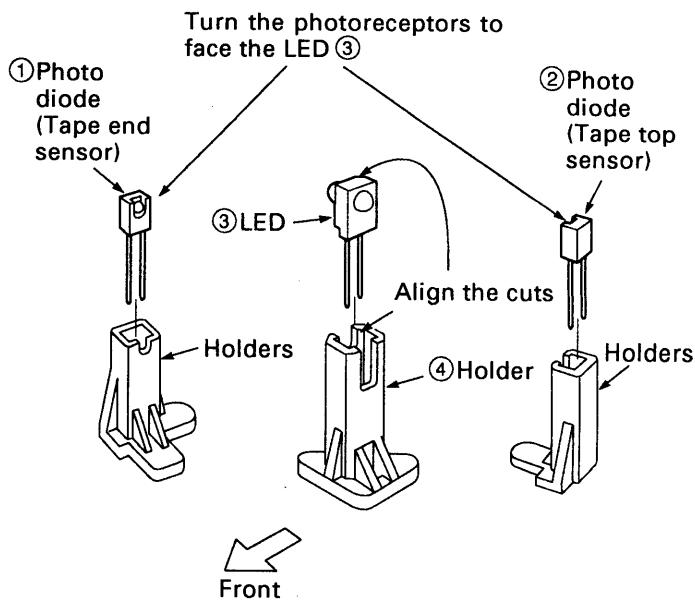

Fig.3-18-1
3-18-1 TAPE TOP SENSOR AND TAPE END SENSOR (See Fig.3-18-1)
1. Fit the photo diodes ① and ② so that their photoreceptors to face the LED ③, as shown in Fig.3-18-1. Align the cuts in the LED ③ and the holder ④. Push the photo diodes ①, ② and the LED ③ as far down as they will go, so that they do not protrude above the top of their holders.